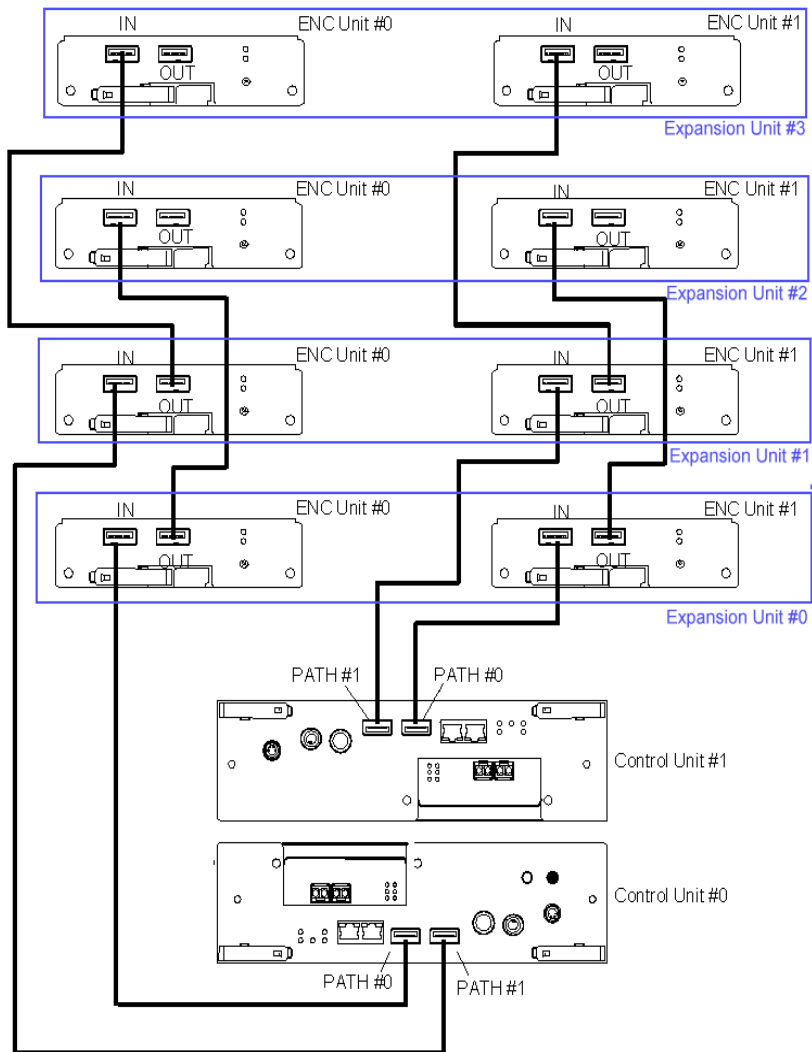

Figure 4-15: AMS 2100/2300 ENC Cable Routing
1. Within the ENC units that are connected to the ENC cable to be replaced, locate the ENC unit on the expansion array that is furthest from the base unit. Figure 4-15 shows how the units are connected together.